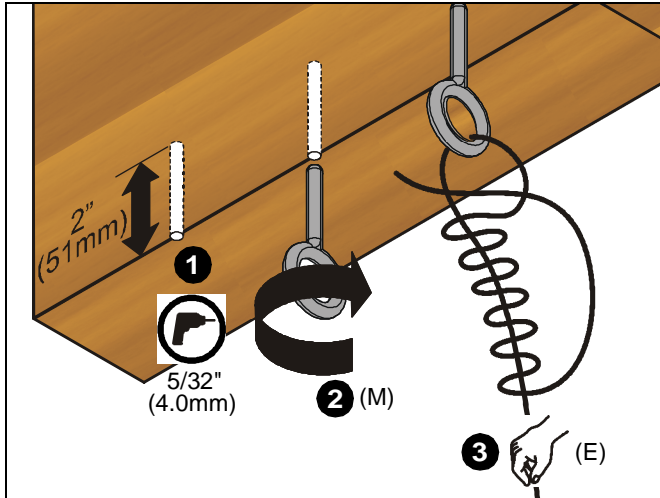

Figure 10
1. Drill 5/32" (4.0mm) diameter x 2" (51mm) deep hole at each marked wire anchor support location. (See Figure 10) Remove debris from hole.
2. Fully thread eye lag (M) into each hole. (See Figure 10)
3. Insert support wire (E) through eye lag (M). Twist wire tightly around itself at least four complete turns, and then thread loose end between eye and first turn. (See Figure 10) Repeat for three remaining support locations.